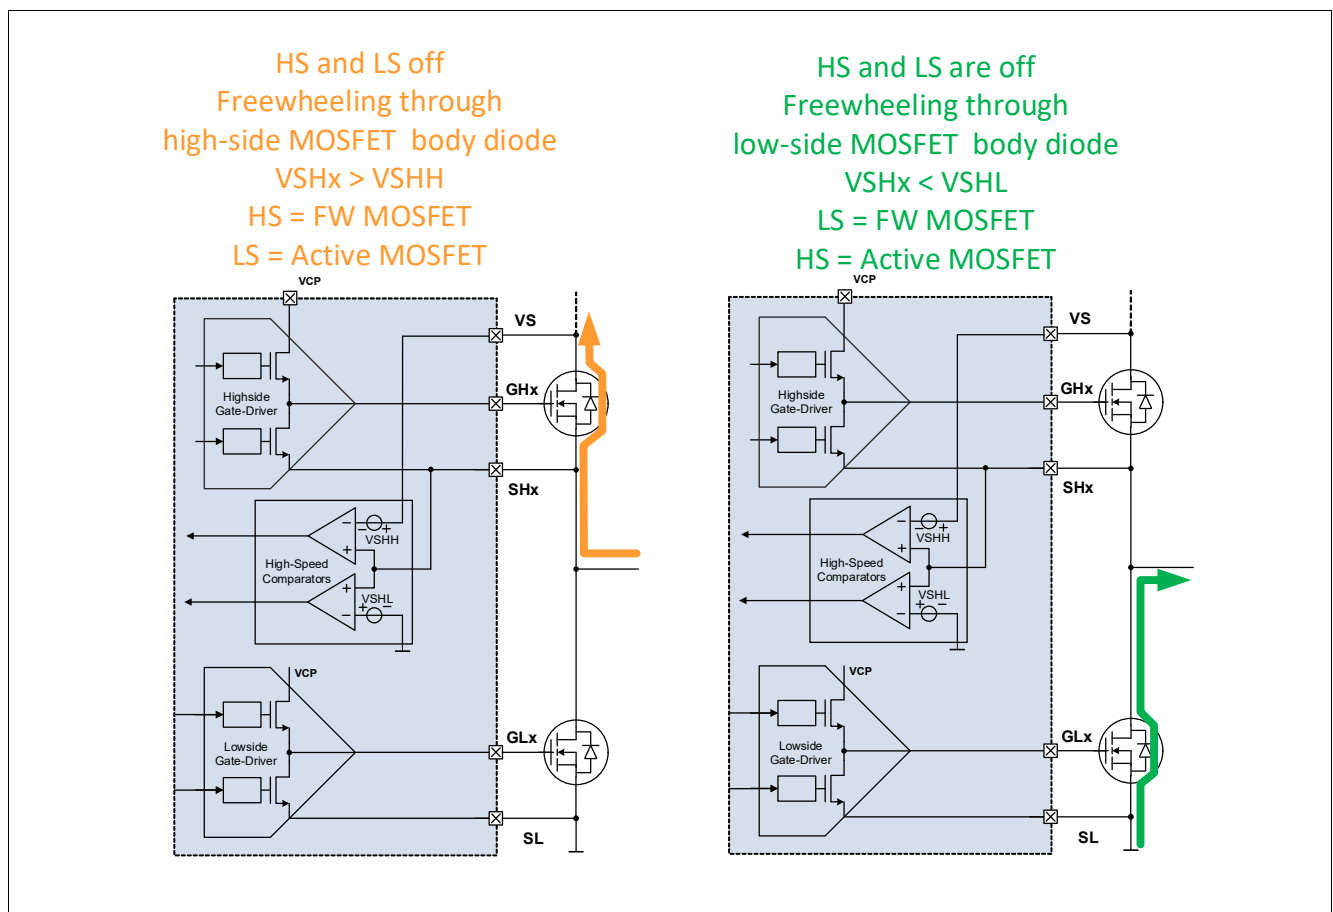

Figure 51 Detection of the active and FW MOSFET (**EN_GEN_CHECK** = 1) - Principle
If **EN_GEN_CHECK** = 1, right before each MOSFET activation, the device detects which MOSFET of the half-bridge is the active MOSFET and which MOSFET is the free-wheeling (FW) MOSFET (**Figure 51**):